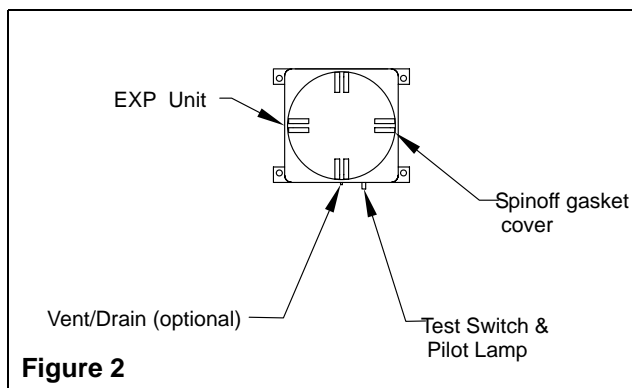

Figure 2
2. Remove spin-off gasketed cover (see fig. 2). Mount unit securely into place positioning the red test switch assembly to the bottom.